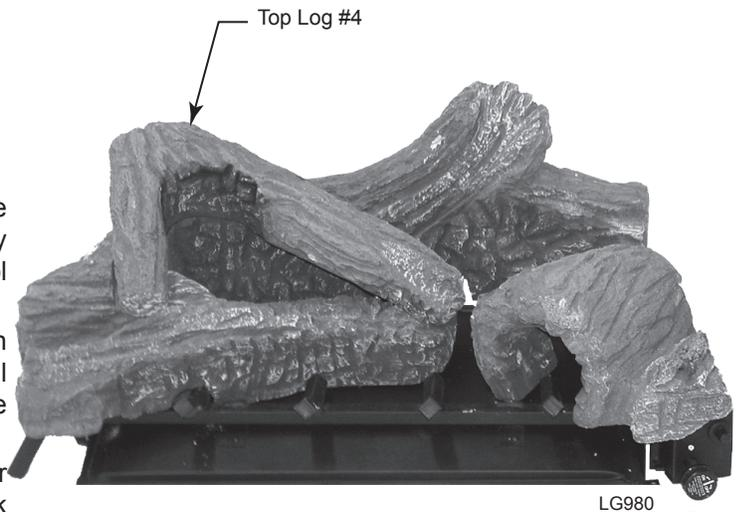

Figure 18
4. Install the top log (#4) with the base sitting on the rear log (#1) and the top sitting on log (#4). Visually check to verify the log is resting on the rear log (#1) and left log (#3). *Figure 18*